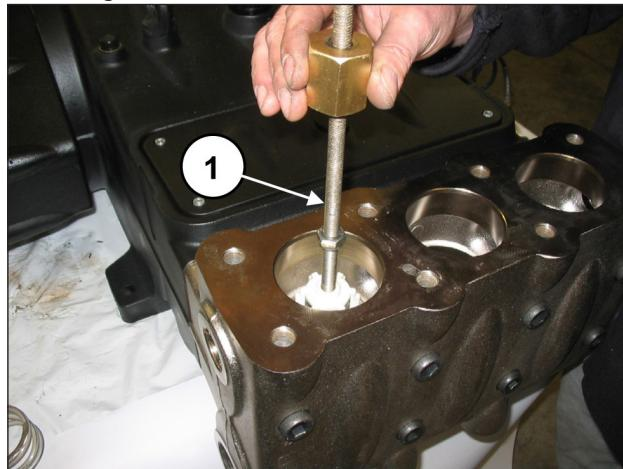

Fig. 92
Extract the outlet valve unit with the use of an extractor hammer (code 27516400) to be applied on the M10 hole of the valve guide (pos. ①, Fig. 92) or, in addition, an M10-M16 adapter (code 25089700) to be attached to the M16 thread of the valve guide.